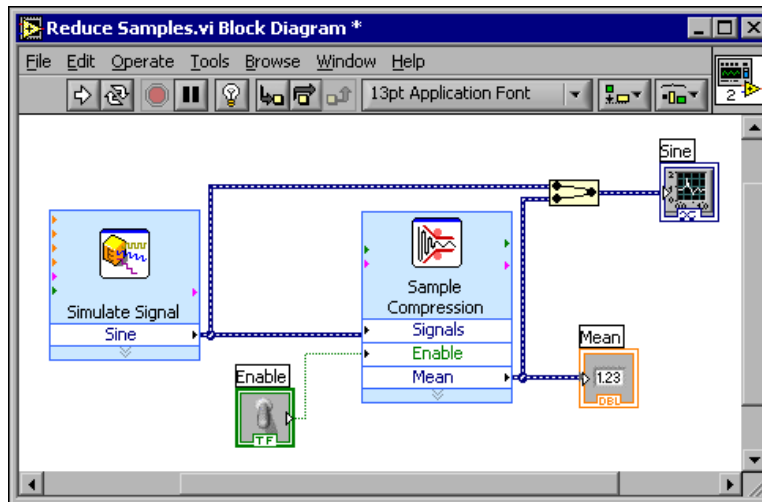

Figure 2.32
In a previous exercise (Section 2.5), you added controls and indicators to the front panel using the **Controls** palette. You also can add controls and indicators from the block diagram. Complete the following steps to create controls and indicators as shown in Figure 2.32.
6. Arrange the objects on the block diagram so that they appear similar to Figure 2.32.